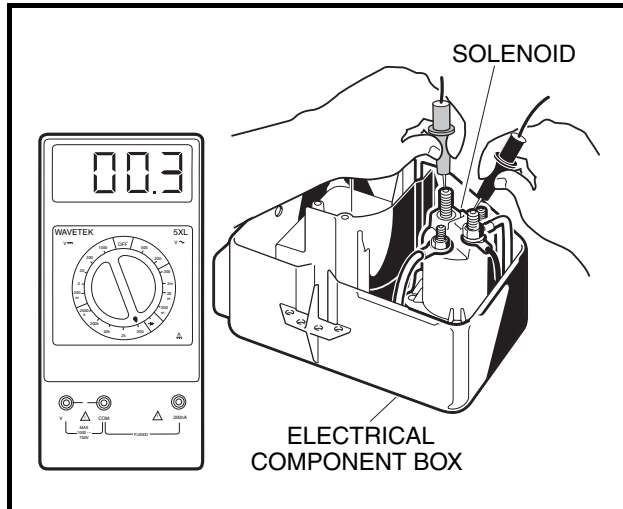

Figure 11-12 Test Solenoid Continuity
7. Set the multimeter to 200 ohms. Connect the red (+) probe to one of the large posts of the solenoid and connect the black (–) probe to the other large post (**Figure 11-12, Page 11-16**).